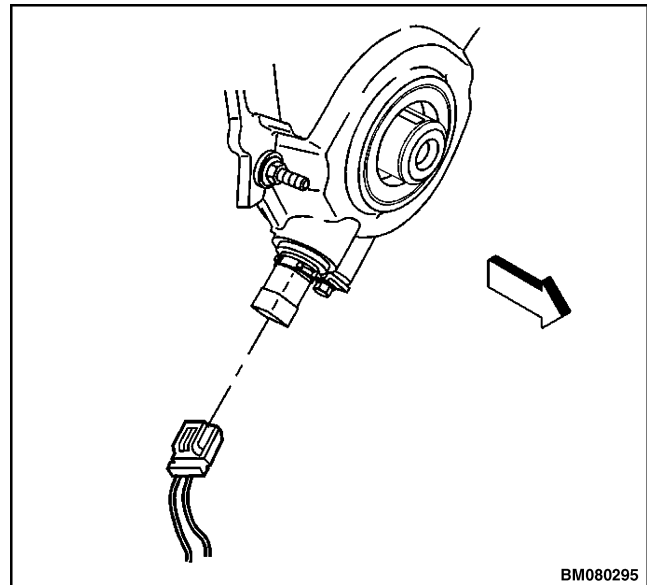

Figure 34. Crankshaft Position (CKP) Sensor Harness
1. Disconnect the crankshaft position (CKP) sensor harness connector. See Figure 34.
5. Connect the CKP sensor harness connector. See Figure 34.